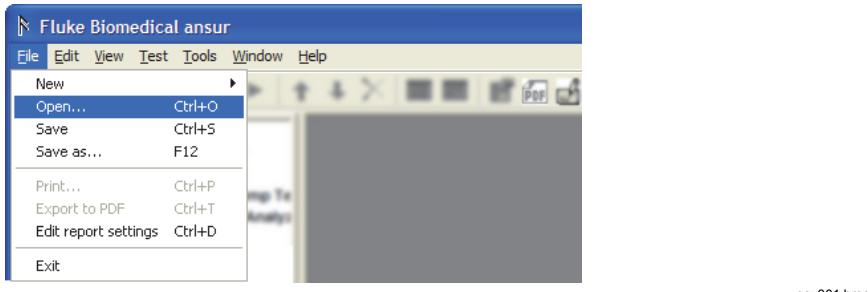

Figure 3-3. Opening an Ansur Template
1. Double-click the Ansur Test Library Shortcut on the desktop, or click on **File | Open** or click the **Open** icon () on the main toolbar to open the dialog box shown in Figure 3-3.